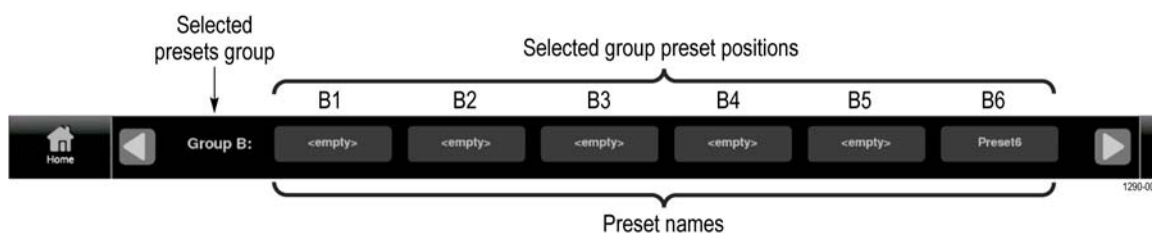

Figure 49: Preset selection controls (Group B shown)
- a. Touch the **Presets** (★) icon to open the Preset selection controls at the bottom of the PRISM display. (See Figure 49.)